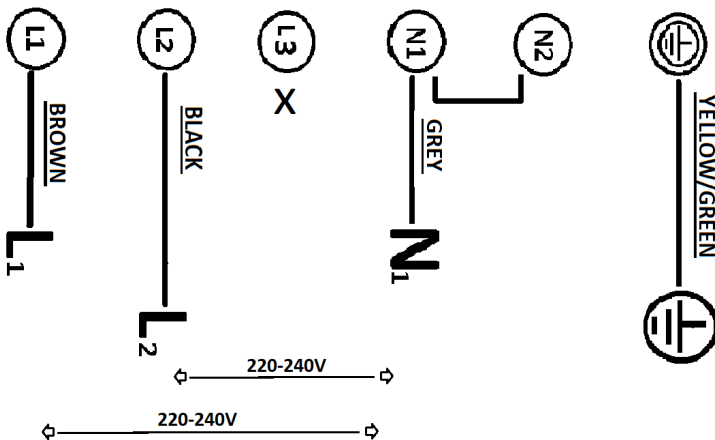

Fig.1
-if the cooktop is installed above a drawer, leave a 65 mm space between the drawer and the top of the cooktop (fig.1).